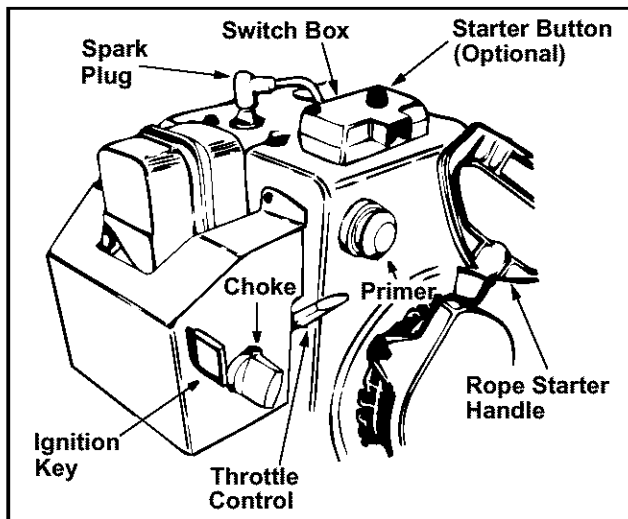

Figure 16
- Move throttle control up to FAST position. Insert ignition key into slot. Be certain it snaps into place. Do not turn key. See Figure 16.
- Push starter button to crank engine. See Figure 16. As you crank the engine, move choke knob to FULL choke position. (cold engine start)